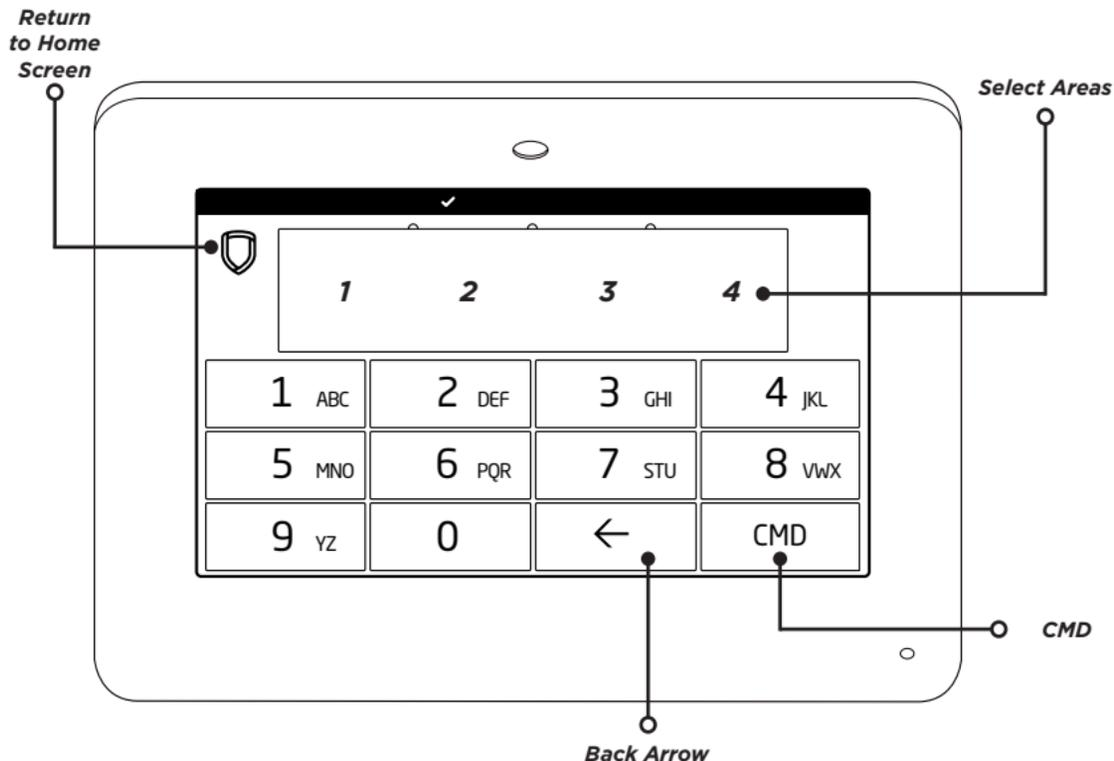

Figure 3: Number Pad
3. Identify the **Select Area** for the character and press that select area on the keypad. Press that select area again for the lowercase letter (Latin only). See Table 2. Refer to Figure 3.